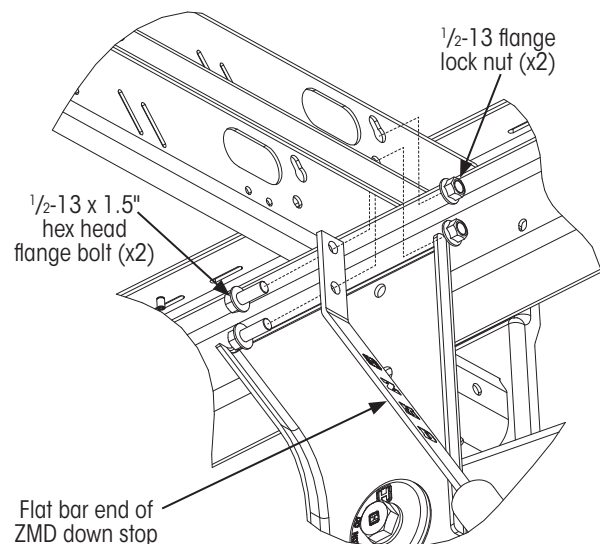

Figure 2: ZMD® Down stop mounting holes
1. Assemble metal bar end of the down stop to the inside of the slider crossmember, as shown in Figure 2, using two 1/2-13 x 1.5 flange bolts and flange nuts provided with the kit.
3. Using the hardware provided with the kit, **slide** a hardened washer onto the shear-type bolt (Figure 2).
6. **Thread** the shear-type bolt into the lower shock mount nut as shown in (Figure 2) and hand tighten.
NOTE: For the suspension beam lower shock mount, the nut is tack welded inside the beam (Figure 2). If the threads are damaged and the nut is not reusable, refer to L635 INTRAAX® Shock Mount Assembly Procedure.